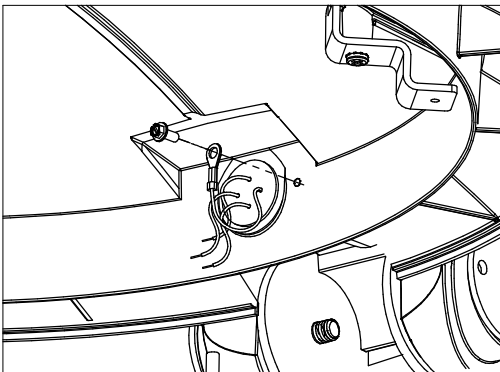

FIG. 4-1
1. REMOVE ALL EXISTING WIRE, GROUND/BOND CONNECTIONS THAT ARE MADE TO THE FIXTURE HOUSING AND DISCARD. (FIG. 4-1)